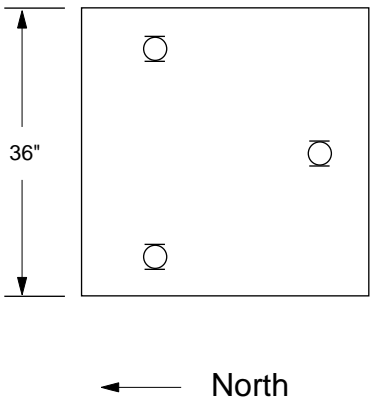

FIGURE 2.1-3. Foundation for B18 Base
1. Dig a hole 36" square and 48" deep where the tower base will be located (Figure 2.1-3).